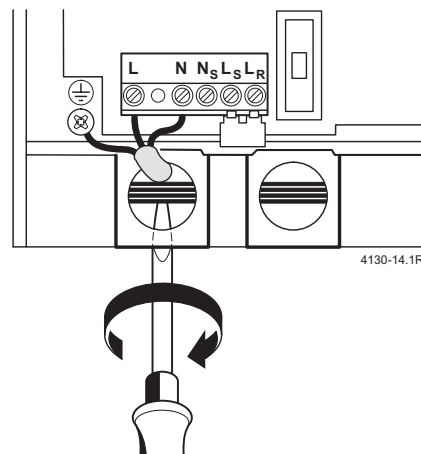

Fig. 30
- ▶ Feed cable through cable grommet and connect the mains supply cable, see Fig. 30.